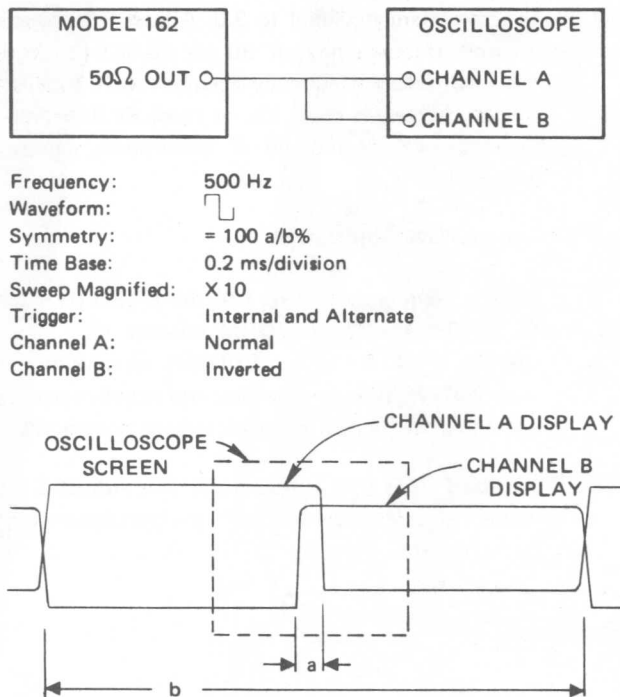

Figure 4-1. Alternate Time Symmetry Test Setup
1. Set the frequency dial to maximum cw, the FREQ (Hz) switch to X 100K and the WAVEFORM selector to . Connect 50 Ω OUT (HI) to the oscilloscope.
- Set the oscilloscope time base to 0.2 ms/division. Adjust the FREQ VERNIER control until the oscilloscope screen is filled by approximately one cycle (see setup and display in Figure 4-1).